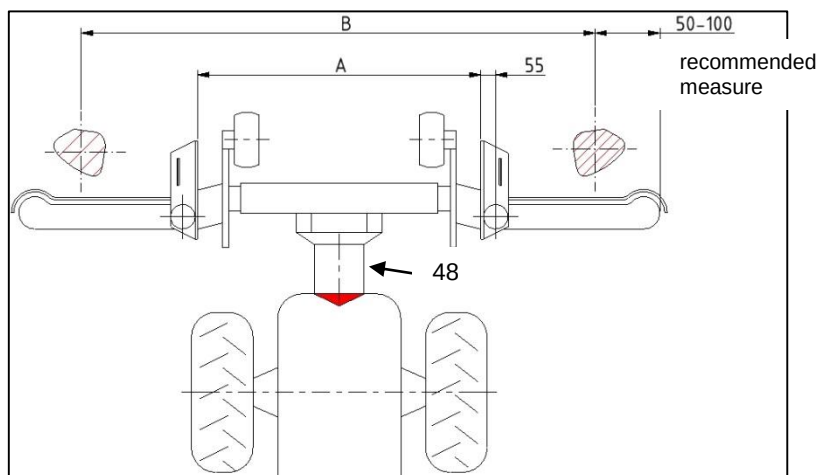

Figure 4 Attachment two-sided front
- The mounting bracket CL759.270000 (Figure 4, item 48) is equipped with a pendulum compensation.